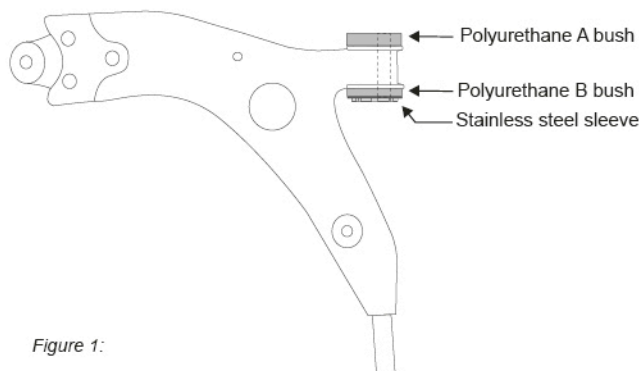

Figure 1:
3. Insert bushes into bore of the arm with polyurethane A bush (larger lip) fitting from the outside of wishbone, as shown in *Figure 1*.
4. Apply grease into bore of the bush and around top face. Fit sleeve into bush with machined face flush against polyurethane B bush as shown in *Figure 1*.